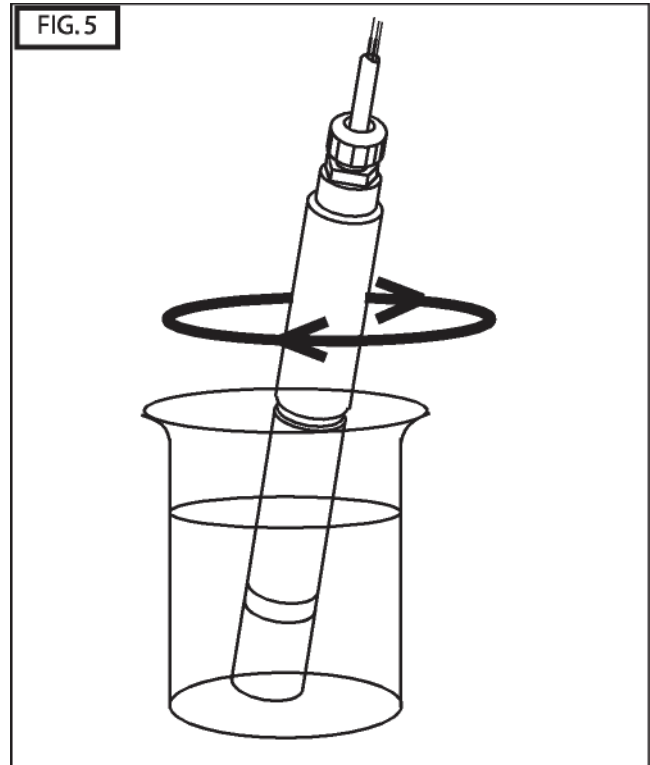

FIG. 5
- Stir the Sensor until the measured value is stable for 5 minutes (FIGURE 5).